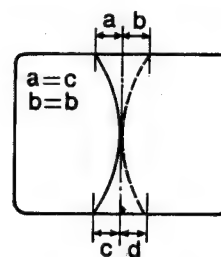

Fig. 33
8. Adjust R, B skew control (Black control on DY) so that the unmatched for left and right of R, B of centre V line is symmetry. (Fig. 33)